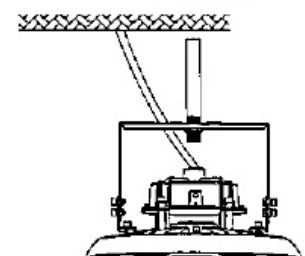

Figure 11
4. After installation, connect the wire of the fixture to the corresponding mains according to local wiring rules, ensure the connection is secure and has a clean connection. By adjusting the brackets screws, users can adjust 50° to the left or right vertically. (figure 11)